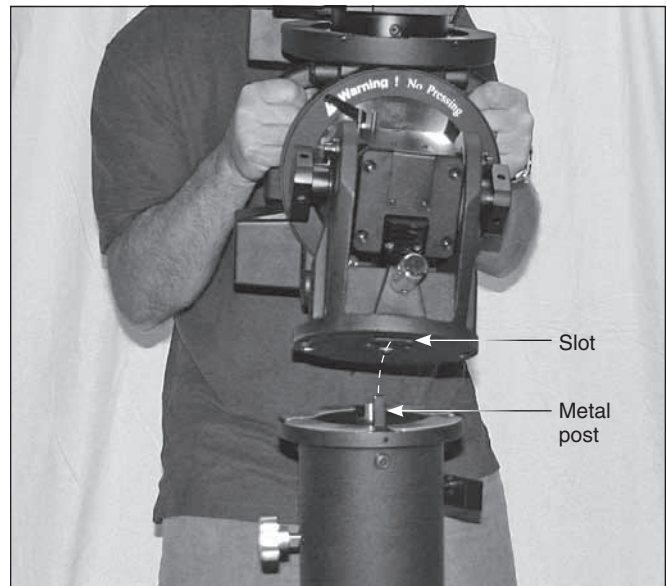

Figure 10. When installing the mount on the tripod pier, align the metal post on the pier with the slot on the mount's baseplate.
3. Then place the mount on the tripod pier, aligning the metal post on the top of the pier with the gap between the two azimuth adjustment knobs (**Figure 10**).